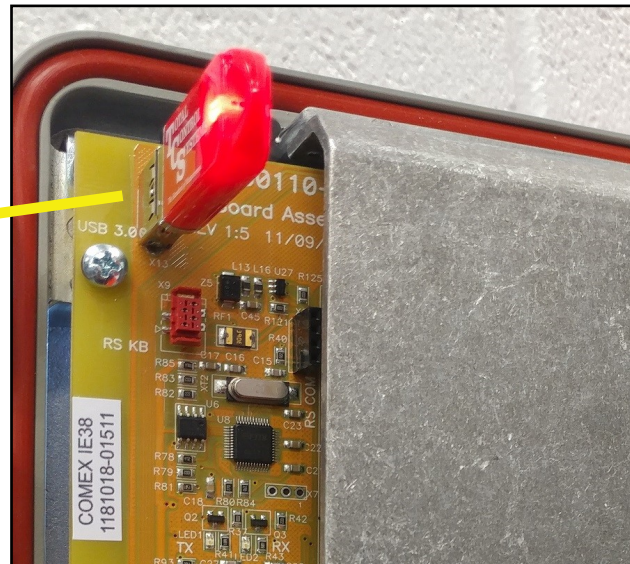

FIGURE 2
2. Open the TCS 3000 register. On the front cover of the register, is a USB connection. Using a factory supplied USB, attach the thumb drive to the USB port to the inside of the register. See Figure 2.